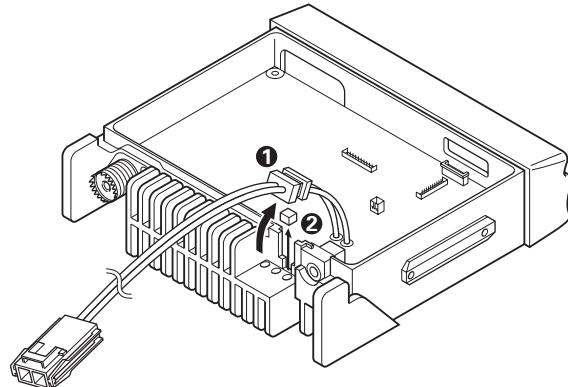

Fig. 1
3. Lift the DC cord bushing (①) from the chassis and remove the pad as shown in the Figure 1 (②).